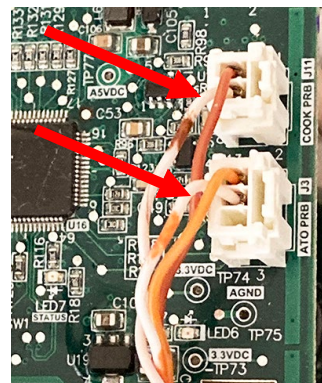

Figure 24
26. Carefully disconnect the 3-pin ATO and 2-pin cook probes from the SIB board (see Figure 24).